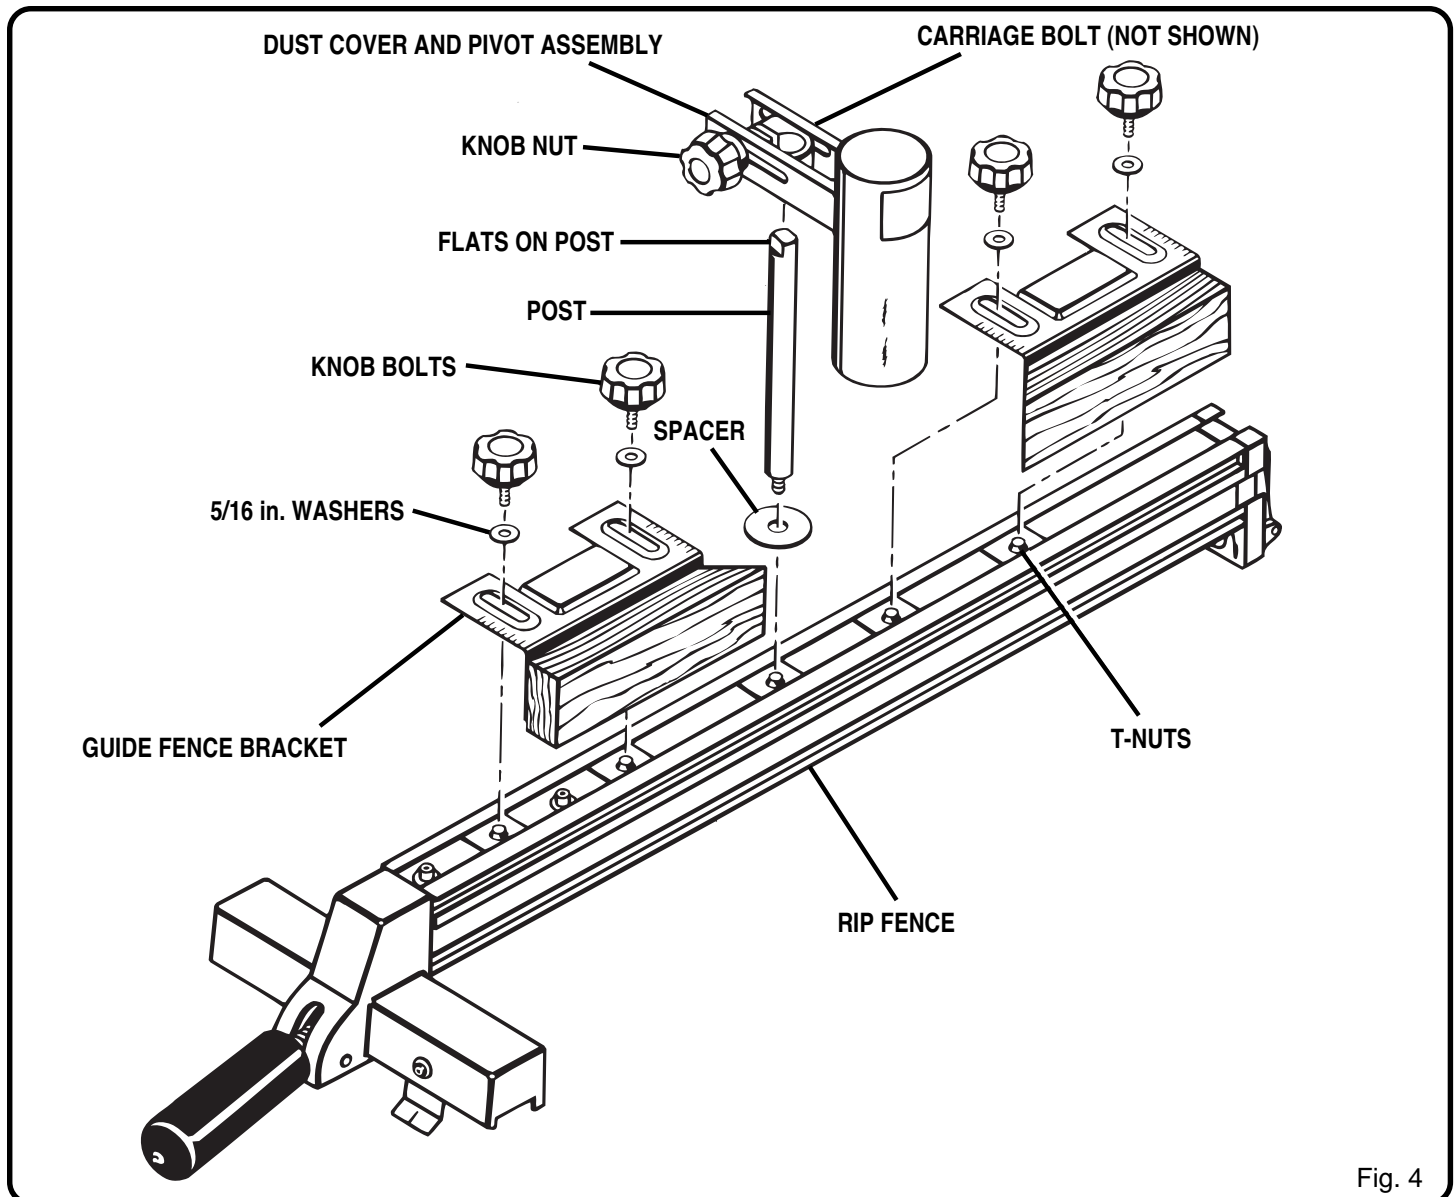

Fig. 4
See Figure 4.
2. Secure guide fences to rip fence with 5/16 in. washers and 5/16 in. x 1/2 in. knob bolts supplied. **Note:** As shown in figure 4, center T-nut is not used with guide fences.
1. Place dust cover and pivot assembly on post as shown in figure 4.